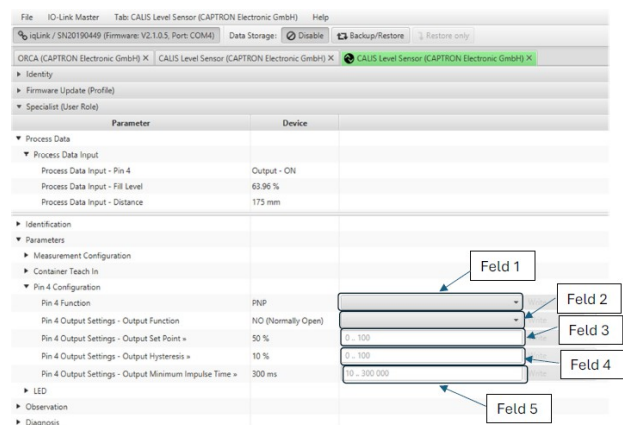

Figure 9 - Pin 4 configuration
- Define function with the drop-down list *Pin 4 Function* ("see Figure 9 - Pin 4 configuration", field 1).
- Define output with the drop-down list *Output Function* ("see Figure 9 - Pin 4 configuration", field 2).
- Enter the switching point as a percentage value in the *Output Set Point* field ("see Figure 9 - Pin 4 configuration", field 3).
- Enter the reset value of the switching point in the *Output Hysteresis* field as a percentage value ("see Figure 9 - Pin 4 configuration", field 4).
Default value is 300 ms ("see Figure 9 - Pin 4 configuration", field 5)